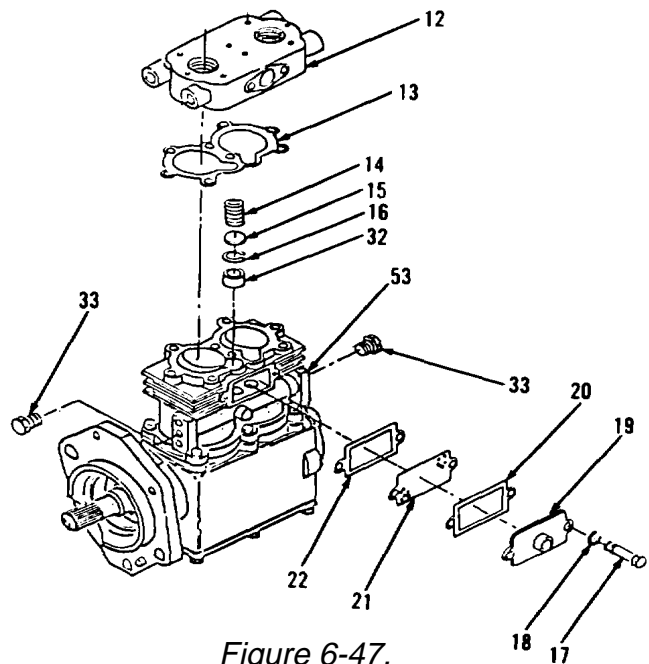

Figure 6-47.
6. Remove cylinder head (12) and gasket (13) from block (53, Figure 6-47). Discard gasket (13). Remove all gasket material from mounting surfaces.
7. Remove and discard two springs (14).
8. Remove two valve discs (15) from two guides (16).
9. Remove two guides (16) from two seats (32).
10. Remove two bolts (17) and lockwashers (18) from block (53).
11. Remove adapter (19), gasket (20), plate (21) and gasket (22). Discard gaskets (20 and 22). Remove all gasket material from mounting surfaces.